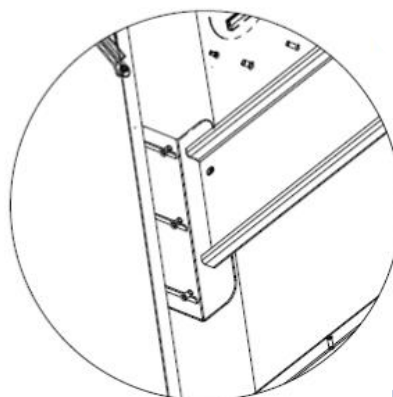

Figure10
- TO RAISE: For thinner display types - replace interior brackets with the additional supplied reversible brackets, using the bolts and washers from the installed bracket to bring forward the position of the screen (Figure10).